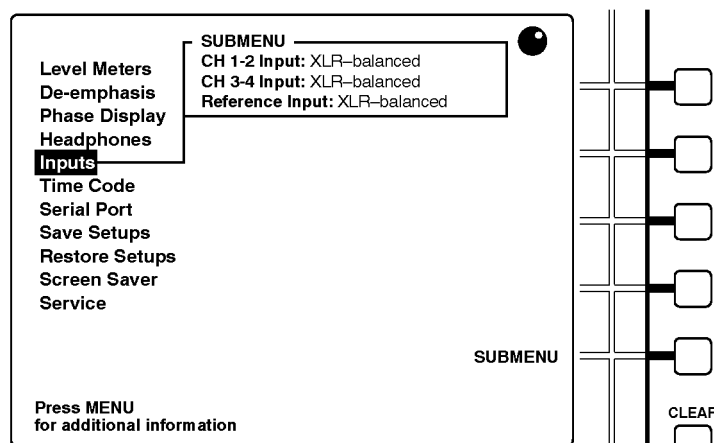

Figure 2-10: Selecting from the top menu
3. The **knob icon** appears in the upper-right corner of the display when the multi-function knob is active. Here, you may turn the knob to scroll among the TOP MENU choices. Turn the knob now to scroll the menu highlight to the **Inputs** entry, as shown in Figure 2-10.